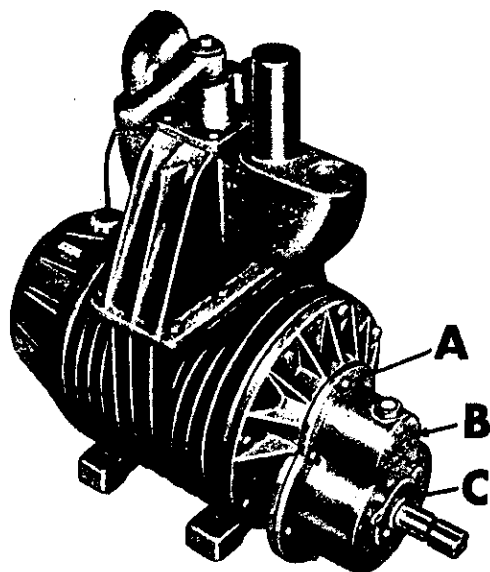

FIG. 1
STEP 1 - 540 RPM FIGURE 1 AND 2